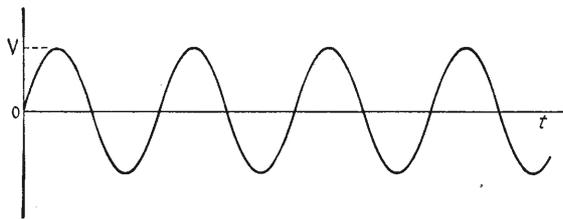
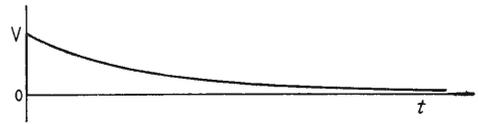
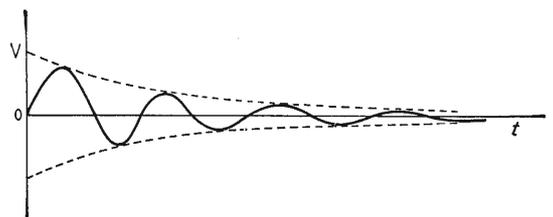
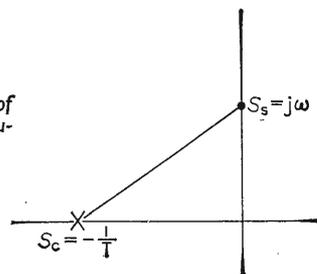

Fig. 1. Sinusoidal waveform, having the real radian frequency  $\omega$ , which appears on a complex frequency plane as the imaginary  $j\omega$ .
Fig. 2. Die-away form, having an imaginary frequency represented on a complex frequency as a negative quantity such as  $-1/T$ .
Fig. 3. Damped oscillatory waveform, combining the features of Figs. 1 and 2 and having a complex frequency, with both real and imaginary parts.
Fig. 7. Elaboration of Fig. 5 to show a sinusoidal source.
The only waveform that has only a single real frequency is the sinusoid, Fig. 1. It can be produced by a suitable generator or source. A well-known way of specifying, say, a voltage having this waveform, is as  $V \sin \omega t$ , or  $V \cos \omega t$ . But an alternative is  $V e^{j\omega t}$ , and in many cases there are good practical reasons for preferring this rather surprising form. The most surprising thing is the  $j$ , when there is no doubt about the frequency
resistance as well as reactance. We considered at length a simple one having resistance and inductance in series. Its natural response to an electrical disturbance has the form shown in Fig. 2, for which the mathematical expression is  $V e^{-t/T}$ ,  $T$  being the time constant of the circuit,  $L/R$ . By analogy with  $V e^{j\omega t}$ , in which the  $j\omega$  indicates a real frequency (of a source or a circuit),  $-1/T$  is an imaginary frequency, because it can be regarded as derived from a real frequency, represented by the imaginary number  $j/T$ , by multiplying it by  $j$ . Carrying the analogy a stage farther, we can say that a source that produced a voltage as in Fig. 2 would have the imaginary frequency  $-1/T$ ,  $T$  being the time taken for the voltage to fall to  $V/e$ , as with the circuit response.
Circuits having all three elements,  $L$ ,  $R$  and  $C$  in suitable proportions, are known to have natural responses such as Fig. 3, combining the features of Figs. 1 and 2. This form can be obtained graphically by multiplying the ordinates in these other two. Multiplication is represented by adding indices, and so the exponential form is typically  $e^{(j\omega - a)t}$ ; here the coefficient of  $t$ , which we have found represents the frequency, is a complex number. So in
Fig. 4. Complex frequency plane, on which a general complex frequency is plotted as a  $\times$ . If this is the natural frequency of a circuit, its free response is of the Fig. 3 type.
So the concept of frequency, normally applied only to the Fig. 1 waveform, can be extended to any form that can be expressed as an exponential time function (e to the power of something times  $t$ ). That something is the frequency as plotted on a graph like Fig. 4, in which real frequency is measured along the imaginary axis.
This extended notion of frequency holds for both sources and circuits. When a source is applied to a circuit there are two responses: the free or natural response, whose form is fixed entirely by the circuit, only its amplitude depending on the source; and the forced response, whose form (in linear circuits) is a copy of the source's, only amplitude and phase depending on the circuit. In linear circuits, the only possible free forms are expressible as exponential time functions, so all of them have natural frequencies, in the extended sense. Sources, on the contrary, can be made to give any variation of voltage or current with time. Fig. 1 shows much the commonest. Figs. 2 and 3 are not so widely favoured. But Fourier showed that any periodical form can be made up of a fundamental and harmonics, all of Fig. 1 form. And we mustn't overlook the one point common to both real and imaginary axes—the origin. It represents zero frequency, or d.c. It is an extreme case of any of the three forms shown, and in perfect analogy is denoted mathematically by  $Ve^{0t}$ , which is just  $V$ .
This was all right in the early instalments, when the idea of a source of imaginary frequency was too ludicrous for us to think of actually putting our definition of a pole to the test by making source frequency coincide with pole. But when we gave a meaning to imaginary frequency, so that a real live source could have it, and found that it was the transient form in Fig. 2, the idea that applying this to an RL circuit having an identical natural frequency would make the impedance vanish (because there is no distance between two coincident points) looked ridiculous. Obviously such a transient voltage applied to a resistive circuit couldn't produce an infinite response. (And if anyone, more cautious in his use of the word "obvious", put it to experimental test, he would find that the response was indeed finite.) That is where we left off.
When these complex frequencies are marked on the usual plane, they give us the pole-zero diagram, Fig. 7 (with no zero in this simple case). In our original rule for using such a diagram, the response was obtained by dividing the excitation by the length of the line joining the two points shown, taking into account also its angle to indicate the phase difference. This directed distance now appears in our equation as  $s_s - s_c$ . But whereas our  $s_s$  was originally limited to the sinusoidal  $j\omega$ , it is now free to roam anywhere on the plane, representing Fig. 2 or Fig. 3 sources, for instance.
where  $A$  is a constant whose value we find (as we did two months ago) from information about the phase at which  $v$  is switched on. (2) shows that the form of this free response is as in Fig. 2—as if we didn't know by now!
symmetrical expression for the total response, in terms of the source and circuit frequencies,  $s_s$  and  $s_c$  respectively. What is more, we have a graphical method of finding the total response—forced and free—of a circuit to an excitation, not limited to the sinusoidal form but valid for any that can be expressed as an exponential function. Briefly, this method is to regard the source frequency as just another pole on the diagram and to use the rules to find each component of the response in turn, by regarding each pole in turn as the source. In Fig. 7 there is only one circuit pole and one source pole, so only two components of response to be added
You will no doubt want to see how this works out for a less simple circuit, but it must be remembered that just now we are exploring what happens when the source frequency is the same as the circuit frequency, so that the two poles coincide. In particular, we were trying to imagine what would happen if the circuit pole was as in Fig. 7 and the source voltage as in Fig. 2, so that its pole was on the same axis and could be made to coincide by making its rate of die-away the same as that of the circuit transient.